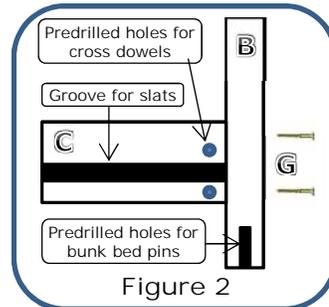

Figure 2
3. Assemble the upper bed using 2 bed rails **C** including the attached guard rail, 2 upper bunk bed ends **B** and 8 connector bolts **G** with 8 cross dowels **H**. Refer to "Figure 2" for correct position of bed rail, bed end and hardware. Insert the back guard rail **D** (see "Figure 4") before tightening connector bolts.